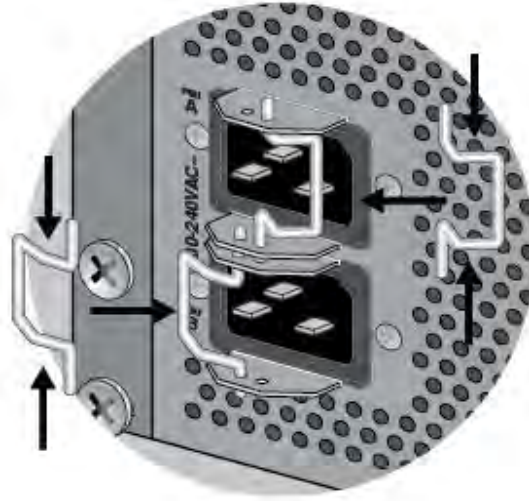

Figure 37. Installing the AC Power Cord Retaining Clips
7. To install the AC power cord retaining clip included with the switch, press in the sides of a retaining clip and insert the ends into the holes above and below the AC connector on the rear panel. Refer to Figure 37.